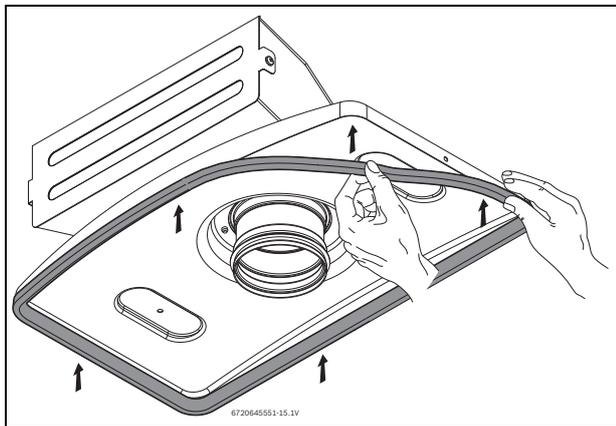

Fig. 9
- ▶ **3.** Attach the gasket provided with the kit as shown in Fig. 9.